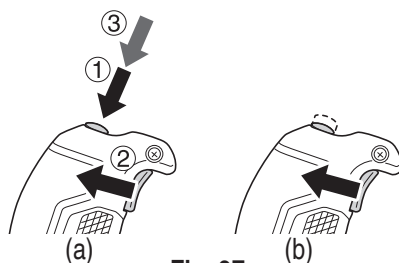

Fig. 27
When the switch trigger is fully drawn, ③ a further press of the ON/OFF Lock button will lock the switch trigger in place, allowing the release of the switch trigger for continued operation. (Fig. 27 (a)) The switch trigger will not be locked if the ON/OFF Lock button is released before the switch trigger is fully drawn, making it possible to operate the tool with a press of the switch trigger.
To unlock the switch trigger, draw the switch trigger once again to release the ON/OFF Lock button and discontinue operation. (Fig. 27 (b)) Prior to using the tool, make sure that the ON/OFF Lock button and the switch trigger are operating properly.